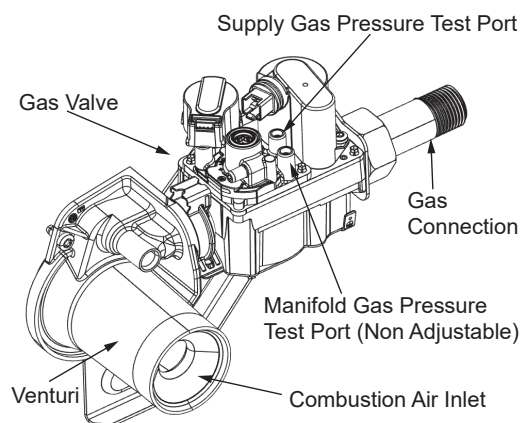

Figure 4. 50 and 75 Gallon PX52 - Gas Valve Assembly
- There are two pressure test ports on the water heater's Gas Valve Assembly. See **Figure 4**. There is a needle valve in each test port that is opened/closed with a T10 Torx. Turn the needle valve counterclockwise to open the test port valve and clockwise to close it.